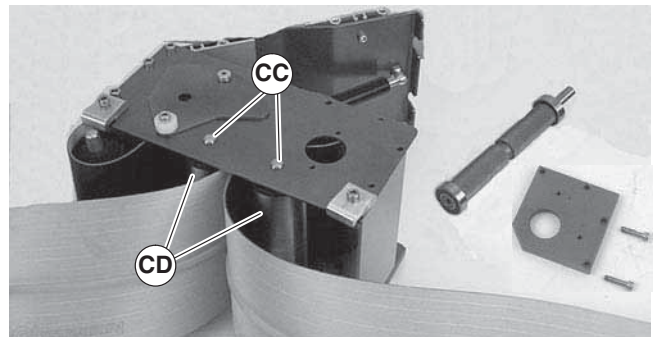

Figure 47
- For 5” (127 mm) or wider conveyor, depress both sides of each spring-loaded shaft (Figure 47, item CC). Remove pulleys (CD).